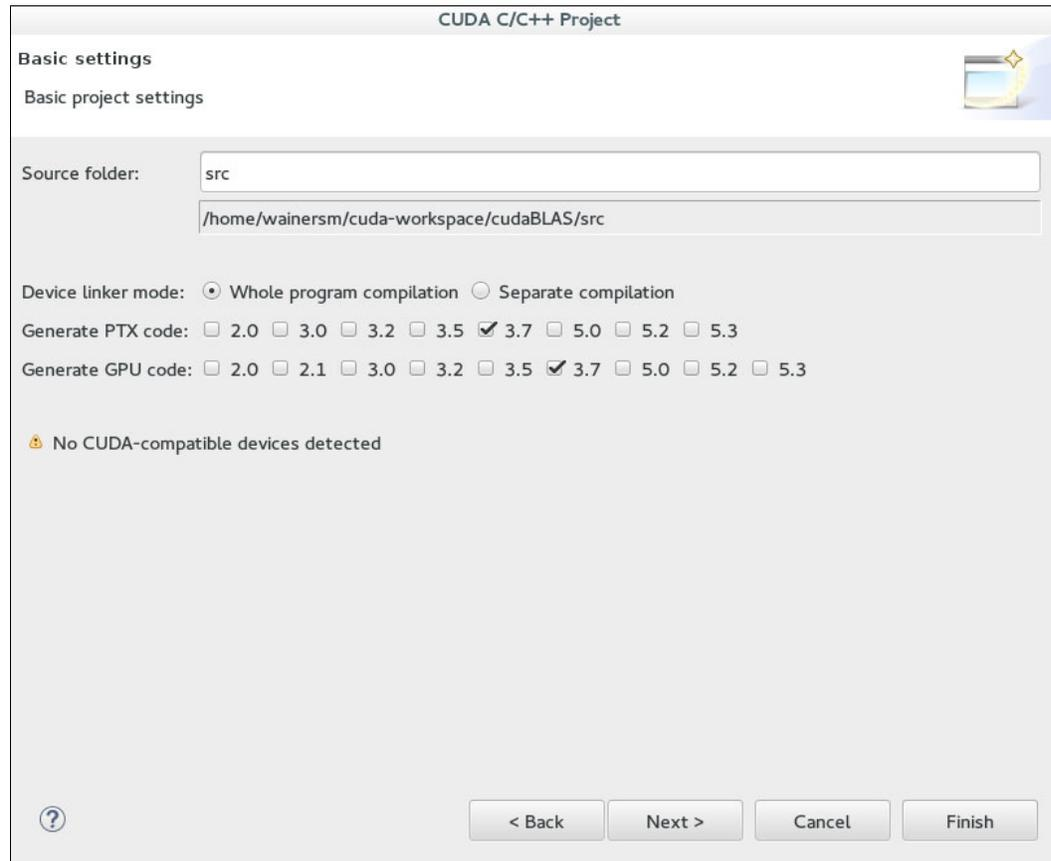

Figure 6-14 Nsight: New CUDA C/C++ project basic settings
3. Select **3.7** on both **Generate PTX code** and **Generate GPU code** fields as shown in Figure 6-14, and click **Next**.